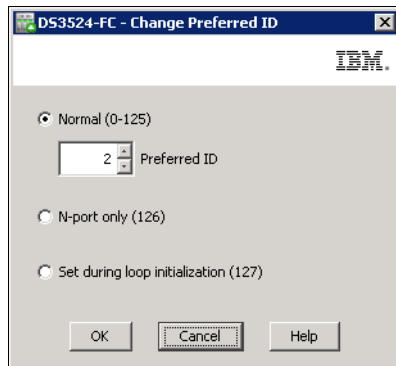

Figure 10-15 Loop ID setting
2. Select the line with port you want to change and click **Change Preferred ID** at the bottom of the window. The window shown in Figure 10-15 displays.